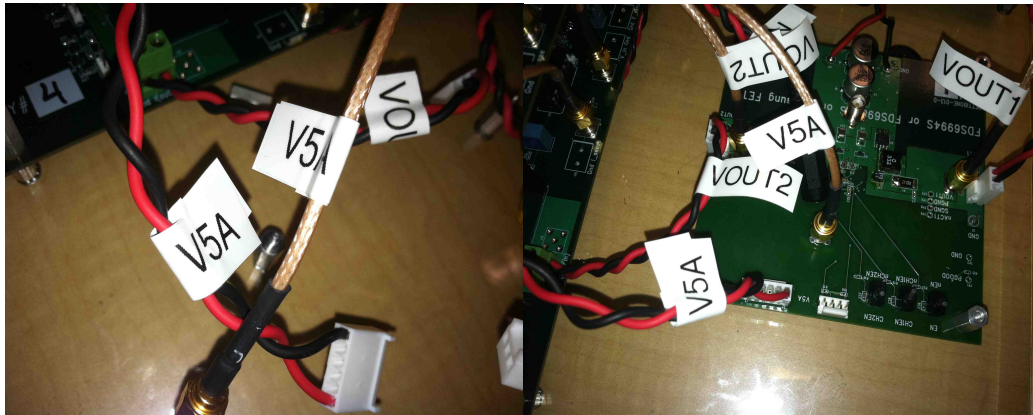

Figure 3.
Step 3: Connect the sma jack and 6 pin connector labeled V5A to your sma connector and 6 pin header labeled V5A as seen in figure 3: